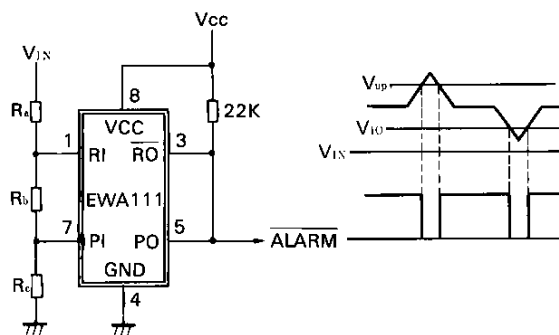

Fig. 9 Upper and lower limit voltage detection circuit
The EWA111 can be used to create a circuit which issues an alarm if the supply voltage reaches its upper or lower limit. This IC has two open collector output circuits with opposite polarities. Therefore, an upper and lower limit voltage detection circuit can be created only by connecting the two output terminals ($\overline{RO}$ and $\overline{PO}$) as shown in Fig.9. The PI terminal is used for upper limit detection and the RI terminal for lower limit detection. The detection voltages V_{up} and V_{lo} can be calculated using formulas (9) and (10).